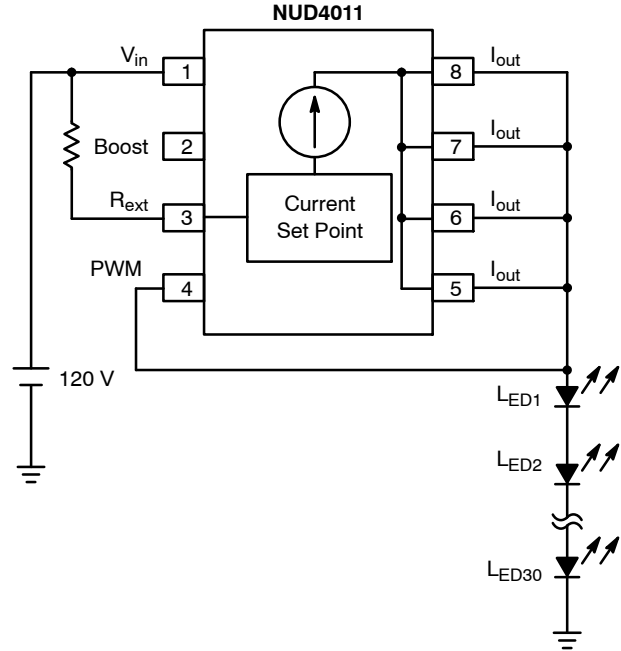

Figure 5. 120 V Application
3. Device's pin 4 connected to the LEDs array (as shown in Figure 5).
A Per example in Figure 5,  $V_{in} = 120 \text{ Vdc}$
4. Define  $V_{LED} @ I_{LED}$  per LED supplier's data sheet: per example in Figure 5,
A Per example in Figure 5,  $V_{in} = 120 \text{ Vac}$